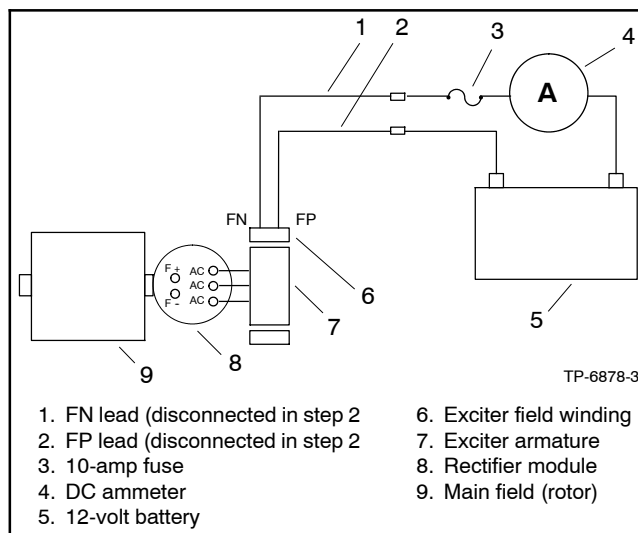

Figure 3-2 Separate Excitation Connections
5. Connect a DC ammeter, 10-amp fuse, and a 12-volt battery to the positive (FP) and negative (FN) exciter leads as shown in Figure 3-2. Note and record the ammeter reading.